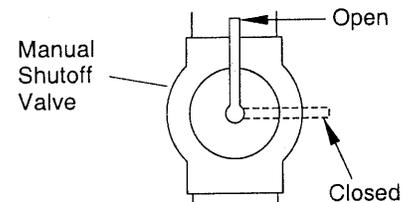

Figure 33 - Manual Shutoff Valve
- Close manual shutoff valve (see Figure 33).
- Open manual shutoff valve (see Figure 33).